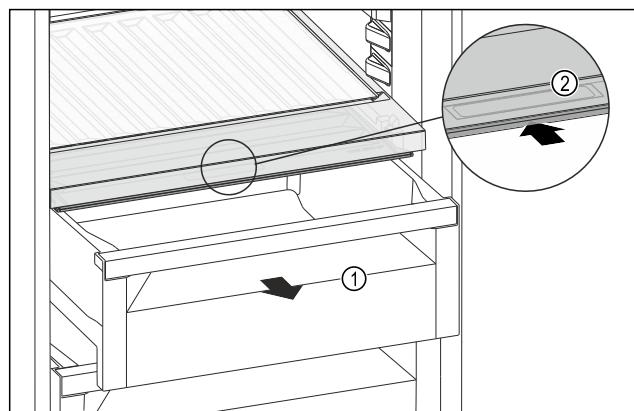

Fig. 159
- Pull out the drawer Fig. 159 (1).
- Grasp the recessed grip Fig. 159 (2) on the compartment lid and push the compartment lid backwards at the same time.